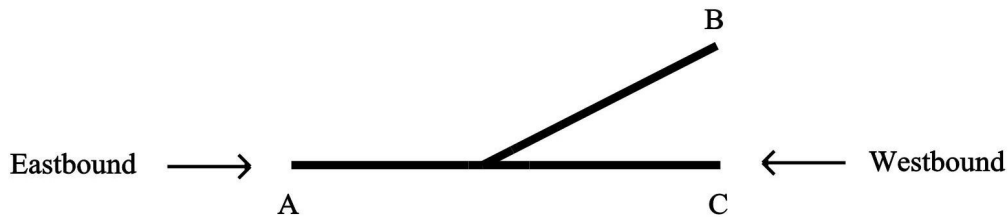

Figure 12-2
1. If we look at Figure 12-2 below, a train coming eastbound at point “A” views the switch as a facing point switch. A train westbound at either point ‘B’ or point ‘C’ views the switch as a trailing point switch.